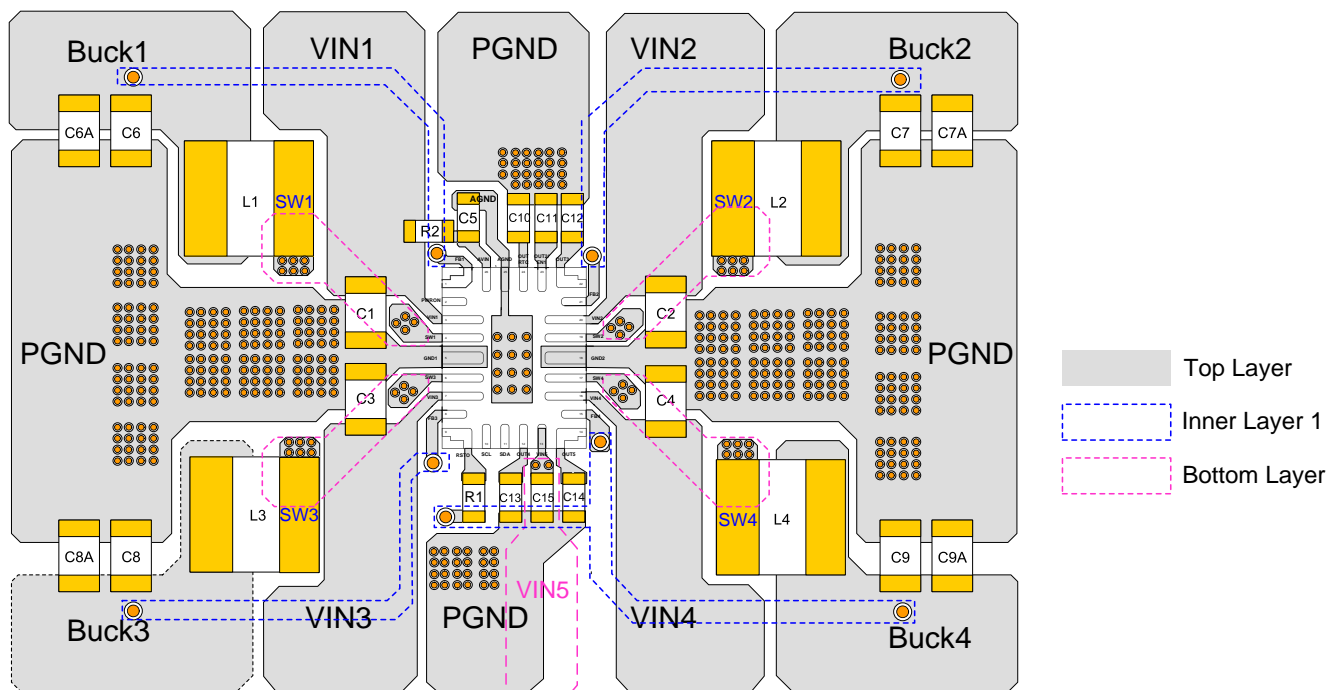

Figure 16: Recommended PCB Layout ⁽²¹⁾
19) The recommended external components are based on Figure 16 on page 39.
PCB layout is critical for stable operation. It is recommended to use a 4-layer board for optimal performance. For the best results, refer to Figure 16 and follow the guidelines below: